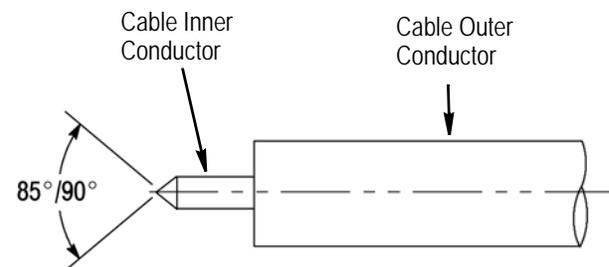

Figure 3
1. Trim inner conductor to length as shown in Figure 3.
2. File blunt end of inner conductor to an 85° to 90° cone as shown in Figure 3.